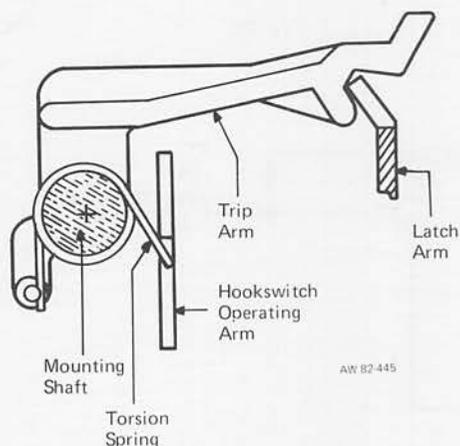

Figure 3: Installation of Trip Arm and Torsion Spring
**9.02** To enable the hookswitch restoration feature, the following steps are taken: (See Figure 3.)